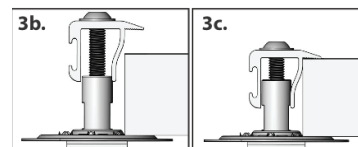
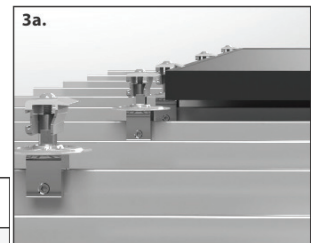

Figure 3b & c
Figure 3a
- 3. Install the first row of modules (Fig 3a):** Place first module in the grabs pushing on the frame to seat the module against the EdgeGrabs and Module Placement Bevel Guide (Fig 3b). Drive the Low Profile Bolt with the provided bit to tighten the grabs (Fig 3c). Low Profile Bolt and Standoff should be torqued to 120-130 in lbs (13.6-14.7 Nm). Check torque periodically during install to ensure the tool is achieving torque. PVKIT 2.0 fits 3b. 3c. module frame thicknesses from 30 mm-46 mm. the grabs (Fig 3c). Low-profile bolt and Standoff should be torqued to 120-130 inch-pounds. (13.6-14.7 Nm). Check torque periodically with a torque wrench.
- 5. Place MidGrab/StandOff/Disk & Clamp Assemblies:** using the PV module as a guide, place the throat of the clamp over the seam and slide the assembly into place so that the edge of the module is seated against the wall of the MidGrab and the Module Placement Bevel Guide, similar to (Fig 3b). Tighten the setscrew(s) of the clamp as described in step 1. The grabs should be left in the partially open position to accommodate the next row of modules before final tightening.
When mounting with any S-5! CorruBracket, S-5-H90, S-5-K Grip style clamps, steps 4/5 will vary slightly. The fasteners for clamp or bracket to the roof must be installed before the PV Disk is mounted atop the clamp/bracket. The module can still be used as a spacer to place the clamps/brackets. Prepare a clamp or bracket with the full MidGrab/StandOff Assembly & PV Disk mounted atop it. Place this assembly so that the inside of the midgrab and the Module Placement Bevel Guide on the PV Disk rest against the edge of the module seating it in place as described in step 5 and shown in Fig 3b. Use a marker (do not use graphite pencil) to mark the location of the clamp or bracket on the roof. Now remove the preassembled clamp/bracket and PV Kit 2.0 and mount a clamp or bracket without the PV Kit, on the mark you made. After fastening the clamp or bracket in place, the MidGrab/StandOff Assembly & PV Disk can be mounted atop it. The slotted hole atop the bracket allows the kit to be slid out of the way as the module is placed, then pushed into place against the edge of the module and tightened.